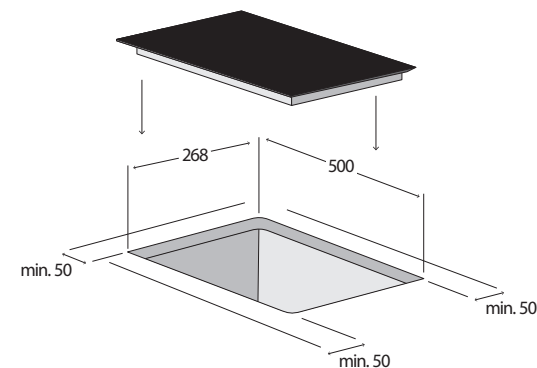

Fig. 7
- The appliance should be assembled into correct built-in units and work surfaces that align to the standards and have dimensions shown in Fig. 7.
2. The required dimensions of the built-in space in the worktop made of heat-resistant material of a minimum thickness of 38–40 mm are on Fig. 7.